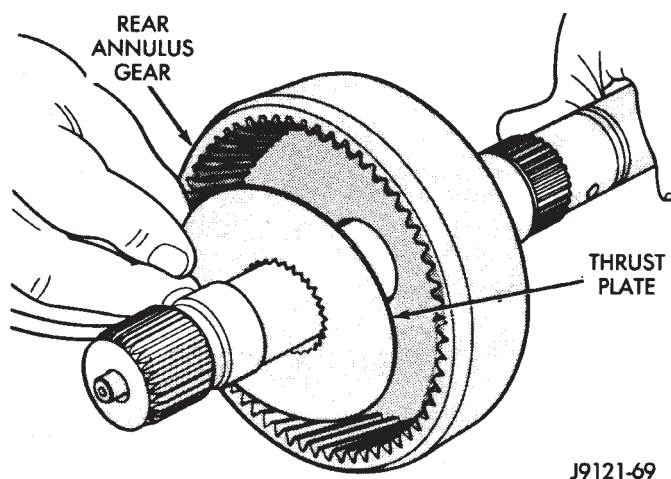

Fig. 80 Installing Rear Annulus Thrust Plate—46RH
(4) Install thrust plate in annulus gear (Fig. 80). Be sure plate is seated on shaft splines and against gear.